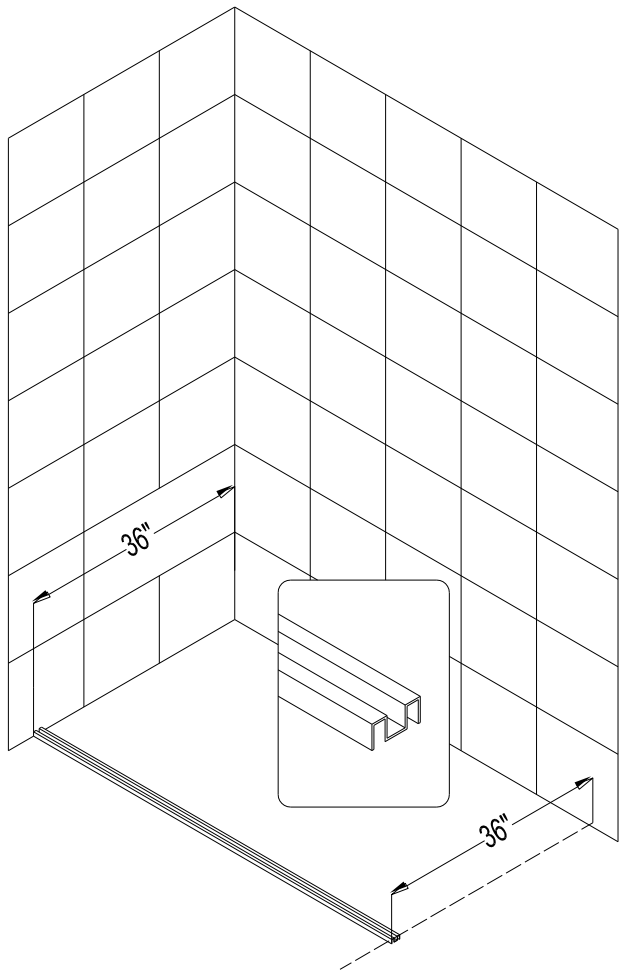

Fig. 1
1. Select the proper place to install the shower enclosure. Refer to the shower enclosure plan for dimensions. Mark out the threshold position on the floor. See fig. 1 for details.